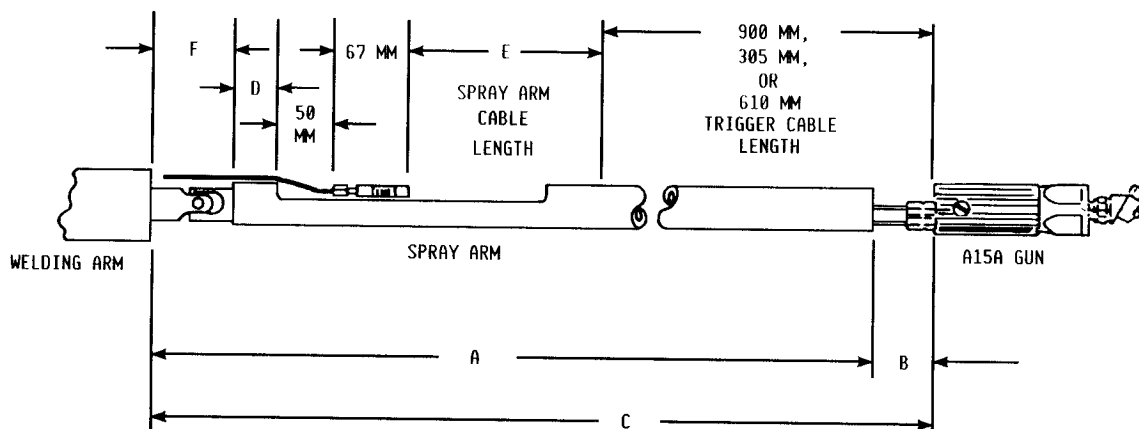

Figure 20 — Determining Spray Arm Cable Length
- a. Refer to Figure 20 to determine required length of spray arm cable. Select appropriate spray arm cable from chart in System Options section of this manual.
Refer to Figure 20.